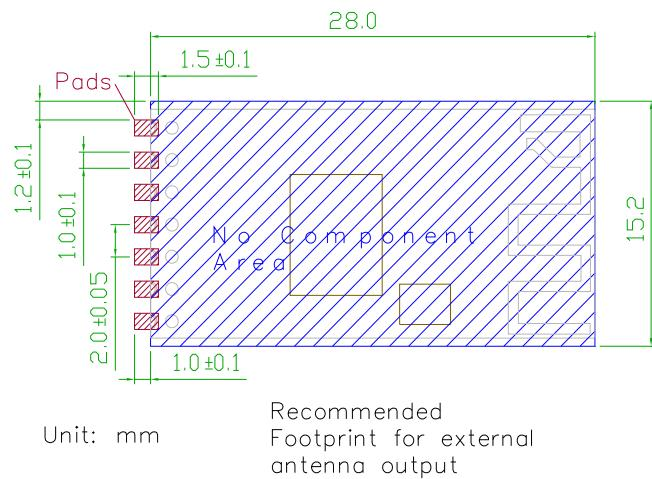
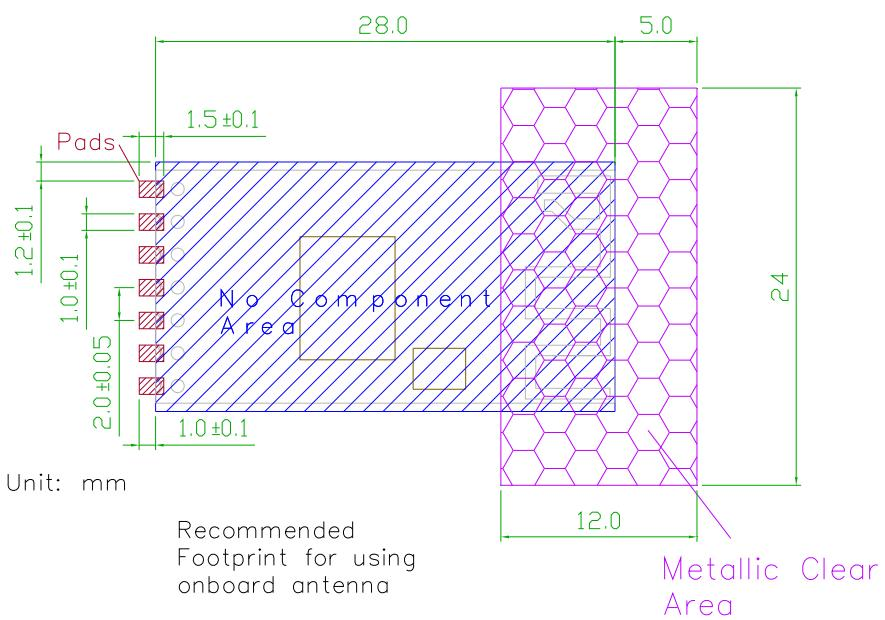

Fig 8
Fig 9.
- 1) When the module is designed to be soldered on a main PCB board directly, the area under the antenna end of the module should be keep clear of metallic components, connectors, vias, traces and other materials that can interfere with the radio signal. The recommended clear space requirements are refer to Fig 8 and Fig 9.